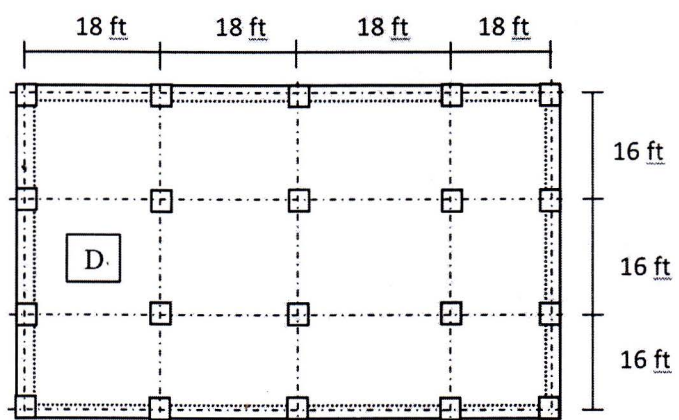

Figure 2: Details of flat slab
- b. Calculate the design moments of the panel "D" of a flat slab (**Figure 2**) of size 18'x16' c/c (supported on 12"×12" edge beams), if it carries floor finish = 30 psf, random wall = 50 psf, live load = 60 psf. [10]